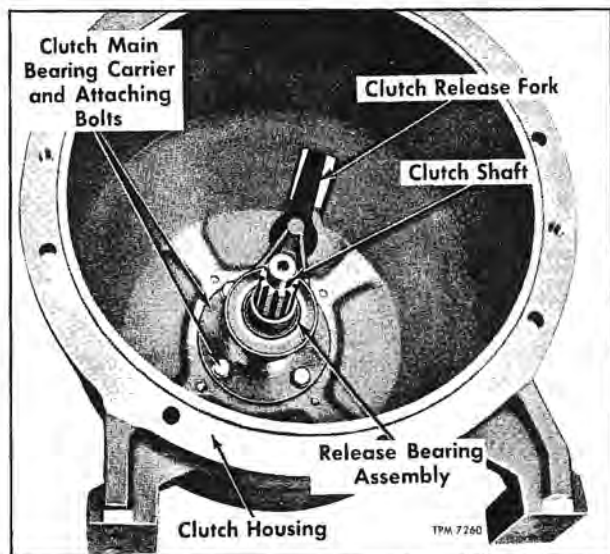

Figure 102—Clutch Fork and Drive Shaft Installed in Clutch Housing
2. Remove socket head screws (13 and 14), which attach clutch housing (12) to compressor. Using two puller screws installed into tapped holes near top and bottom of clutch housing, remove housing evenly from compressor. Figure 102 shows housing with shaft removed. Remove pump drive belts from compressor flywheel pulley.
(Refer to Fig. 102)
7. Install clutch release fork (8) to clutch housing, using new external lock washer on ball stud. Tighten stud firmly. Figure 102 shows assembly built up.